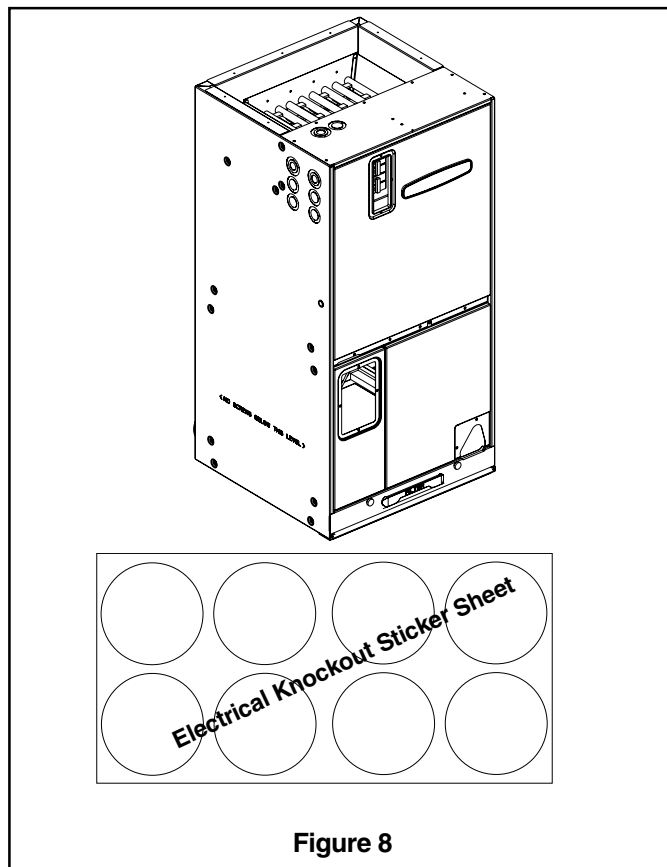

Figure 8
- f. **Openings where field wiring enters the cabinet must be completely sealed.** Location of power entry is shown on the Outline Drawing. Use 2.5" clear stickers provided to seal all unused electrical knockouts. See Figure 8.
- k. **Openings where field wiring enters the cabinet must be completely sealed.** Location of power entry is shown on the outline drawing. Use 2.5" clear stickers provided to seal all unused electrical knockouts. See Figure 8.
- j. **Openings where field wiring enters the cabinet must be completely sealed.** Location of power entry is shown on the outline drawing. Use 2.5" clear stickers provided to seal all unused electrical knockouts. See Figure 8.
- i. **Openings where field wiring enters the cabinet must be completely sealed.** Location of power entry is shown on the outline drawing. Use 2.5" clear stickers provided to seal all unused electrical knockouts. See Figure 8.